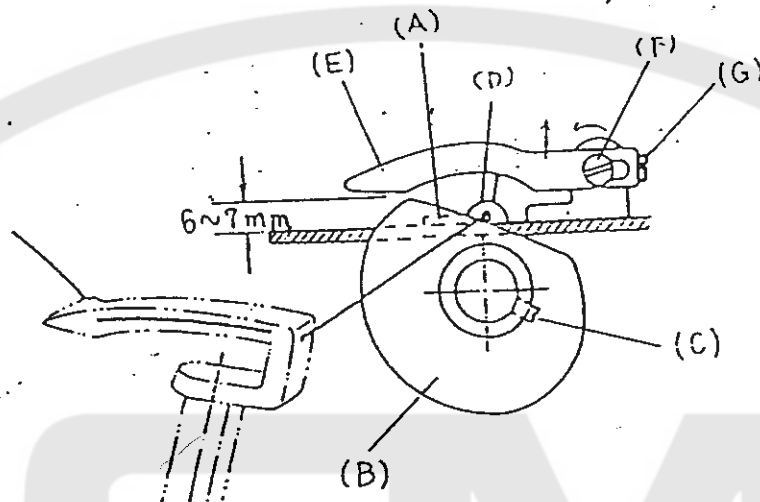
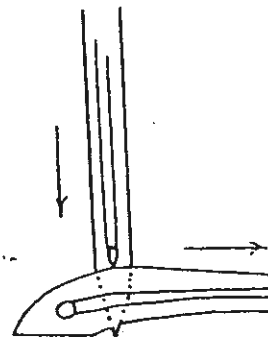

Fig. 13
Fig. 14
a) proper location of thread take-up eyelet D (Fig. 13)
b) Setting looper thread retainer E (Fig. 13)
d) Adjusting take-up cam (Fig. 14) (Fig.13)